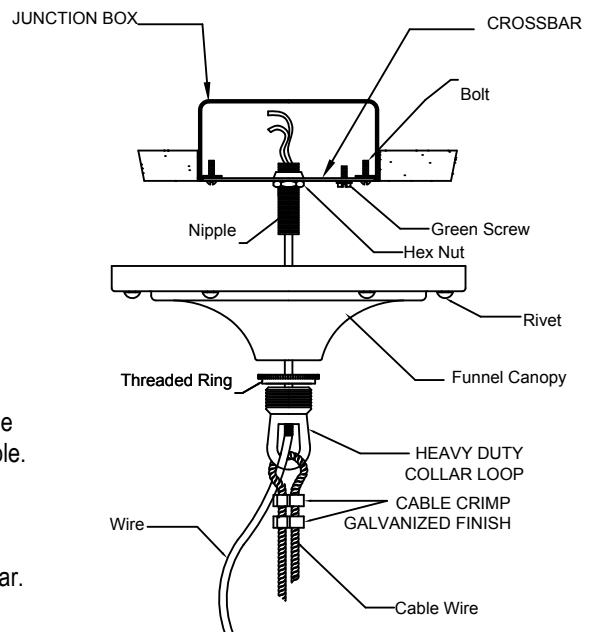

FIGURE-1
7. Place the glass bowl into the spinning top cover then place the brass glass holder. Lock the glass and the cover using the acorn nuts (See figure-1).